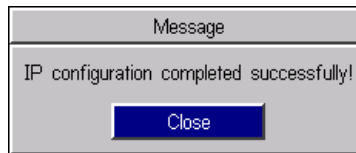

Figure 2-8: IP Configuration Successful Message Box
- 11** Cycle power on the In-Sight 1000 by removing, then reinserting, the RJ-45 connector from the sensor's Breakout port. The message in Figure 2-8 appears when the In-Sight 1000 is located on the network.